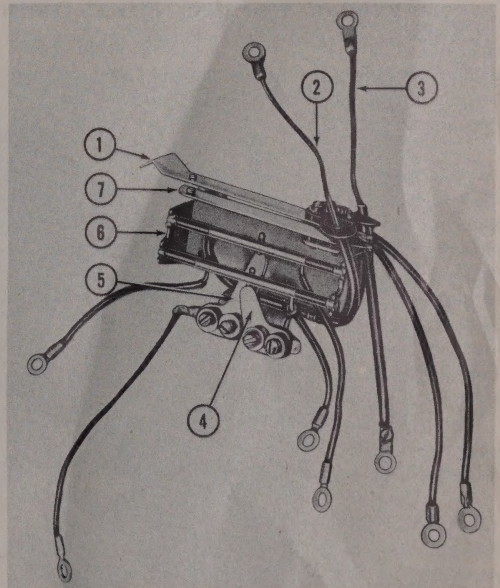

Figure 308 — Dual Banking Potentiometer Assembly
(9) DISASSEMBLE THE DUAL BANKING POTENTIOMETER ASSEMBLY. (See figure 308.)
(4) DUAL BANKING POTENTIOMETER ASSEMBLY. (See figure 308.)